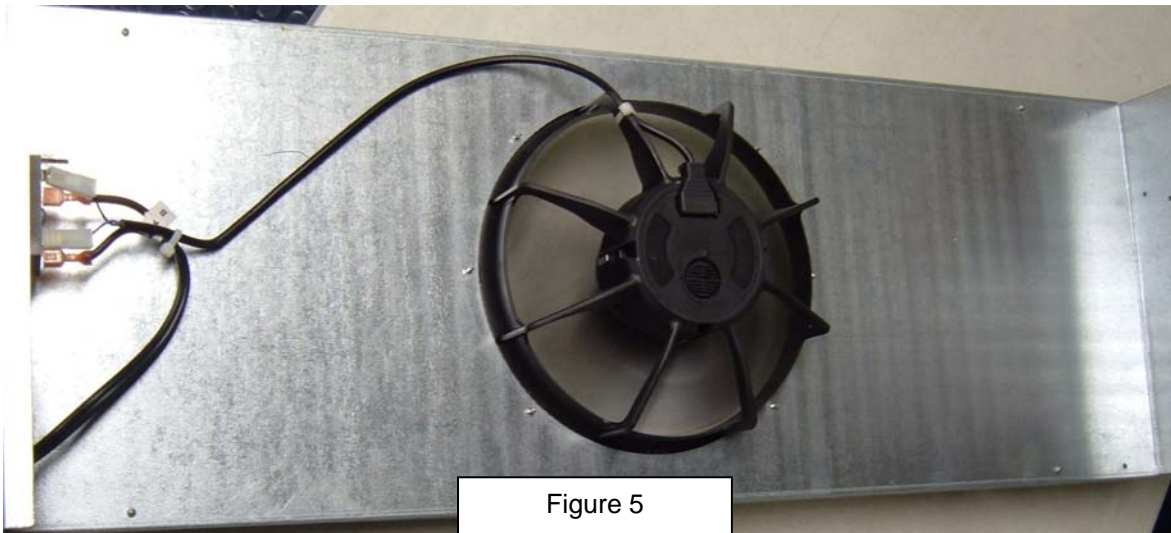

Figure 5
14. Lay the new Evaporator Fan Shroud Assembly on a flat surface as shown in Figure 5.